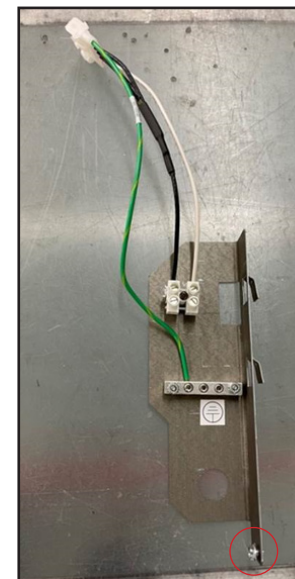
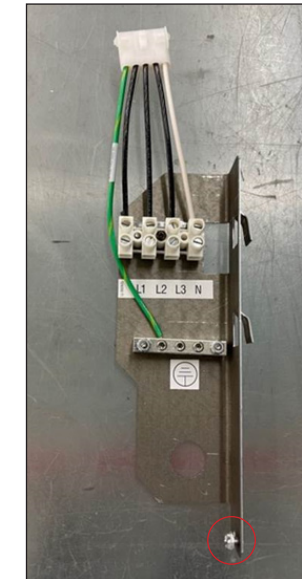

Figure 6: 1-Phase Power Entrance
Figure 7: 3-Phase Power Entrance
1. Use a $\frac{5}{16}$ " nutdriver to remove the screw from the mounting plate. Refer to **Figure 6** and **Figure 7**.